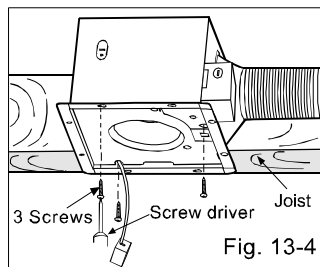

Fig. 13-4
- Secure the blower (Fig. 13-4) and plug connector to receptacle. (Fig. 12)